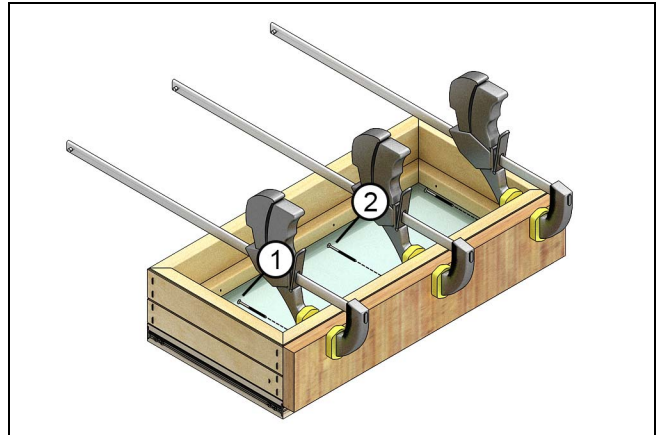

Figure 27
Clamp the space mull block or LVL to the bottom of the upper unit flush with the interior. Fasten through the sill into the block with #8 2/3 thread screws 4" (102) from each end and every 12-15" (305-381) after (follow fastener length from table below). See Figure 27.